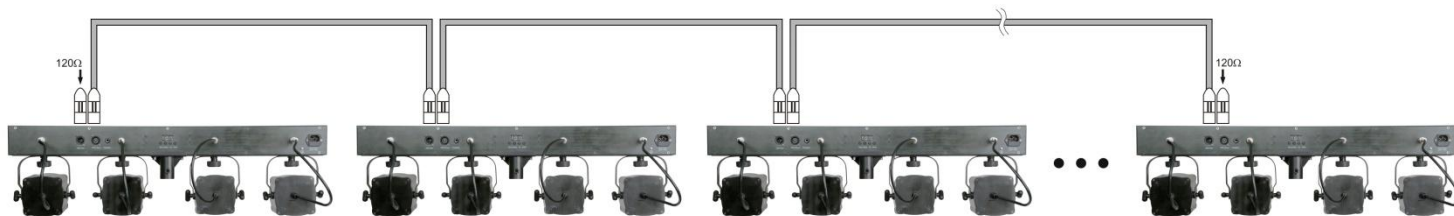

Fig. 3
3. Link the units as shown in (Fig. 3), Connect a DMX signal cable from the first unit's DMX "out" socket to the second unit's "in" socket. Repeat this process to link the second, third, and fourth units. You can use the same functions on the master device as described on page 13+14 (Built-in Programs, Auto Run, Static Color or Music control). This means on the master device you can set your desired operation Mode and all slave devices will react the same as the master device.